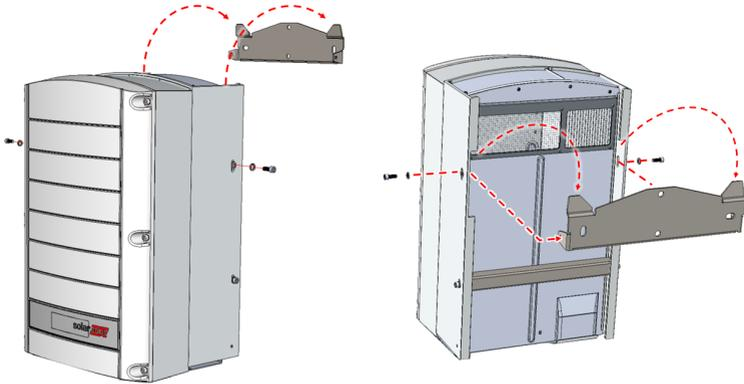

Figure 11: Hanging the inverter on the brackets
5. Hang the inverter on the bracket (See *Figure 11*):
3. Hang the inverter on the bracket (See *Figure 11*):
6. Hang the inverter on the bracket (See *Figure 11*):